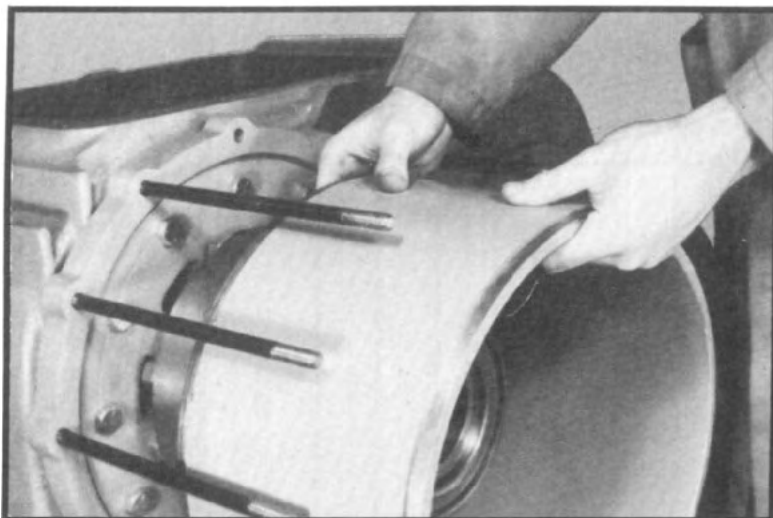

Fig. 45
- 2.7 Tap rear output shaft and ball bearing from differential cap with a soft hammer. Remove large diameter o-ring from differential cap. (See fig. 45.)